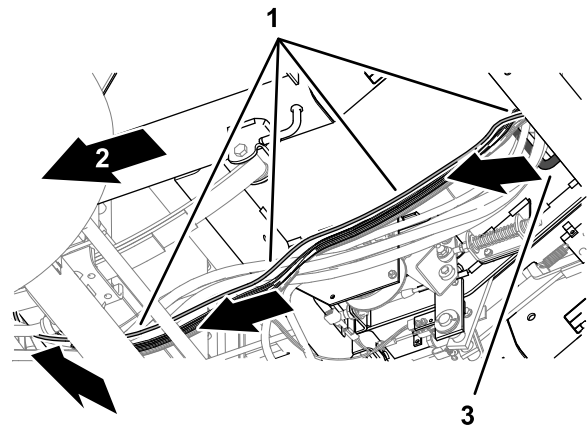

Figure 67
4. At the bottom of the machine, route the modem data cable rearward, along the wire harness of the machine (Figure 67).